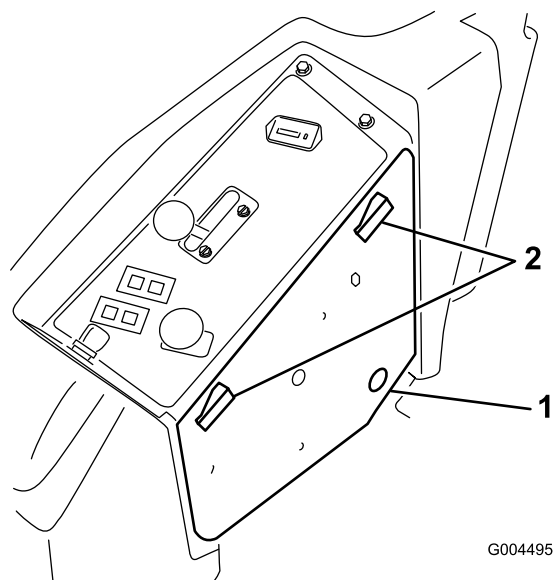

Figure 1
1. Unlatch the side cover of the control panel (Figure 1) and set it aside.